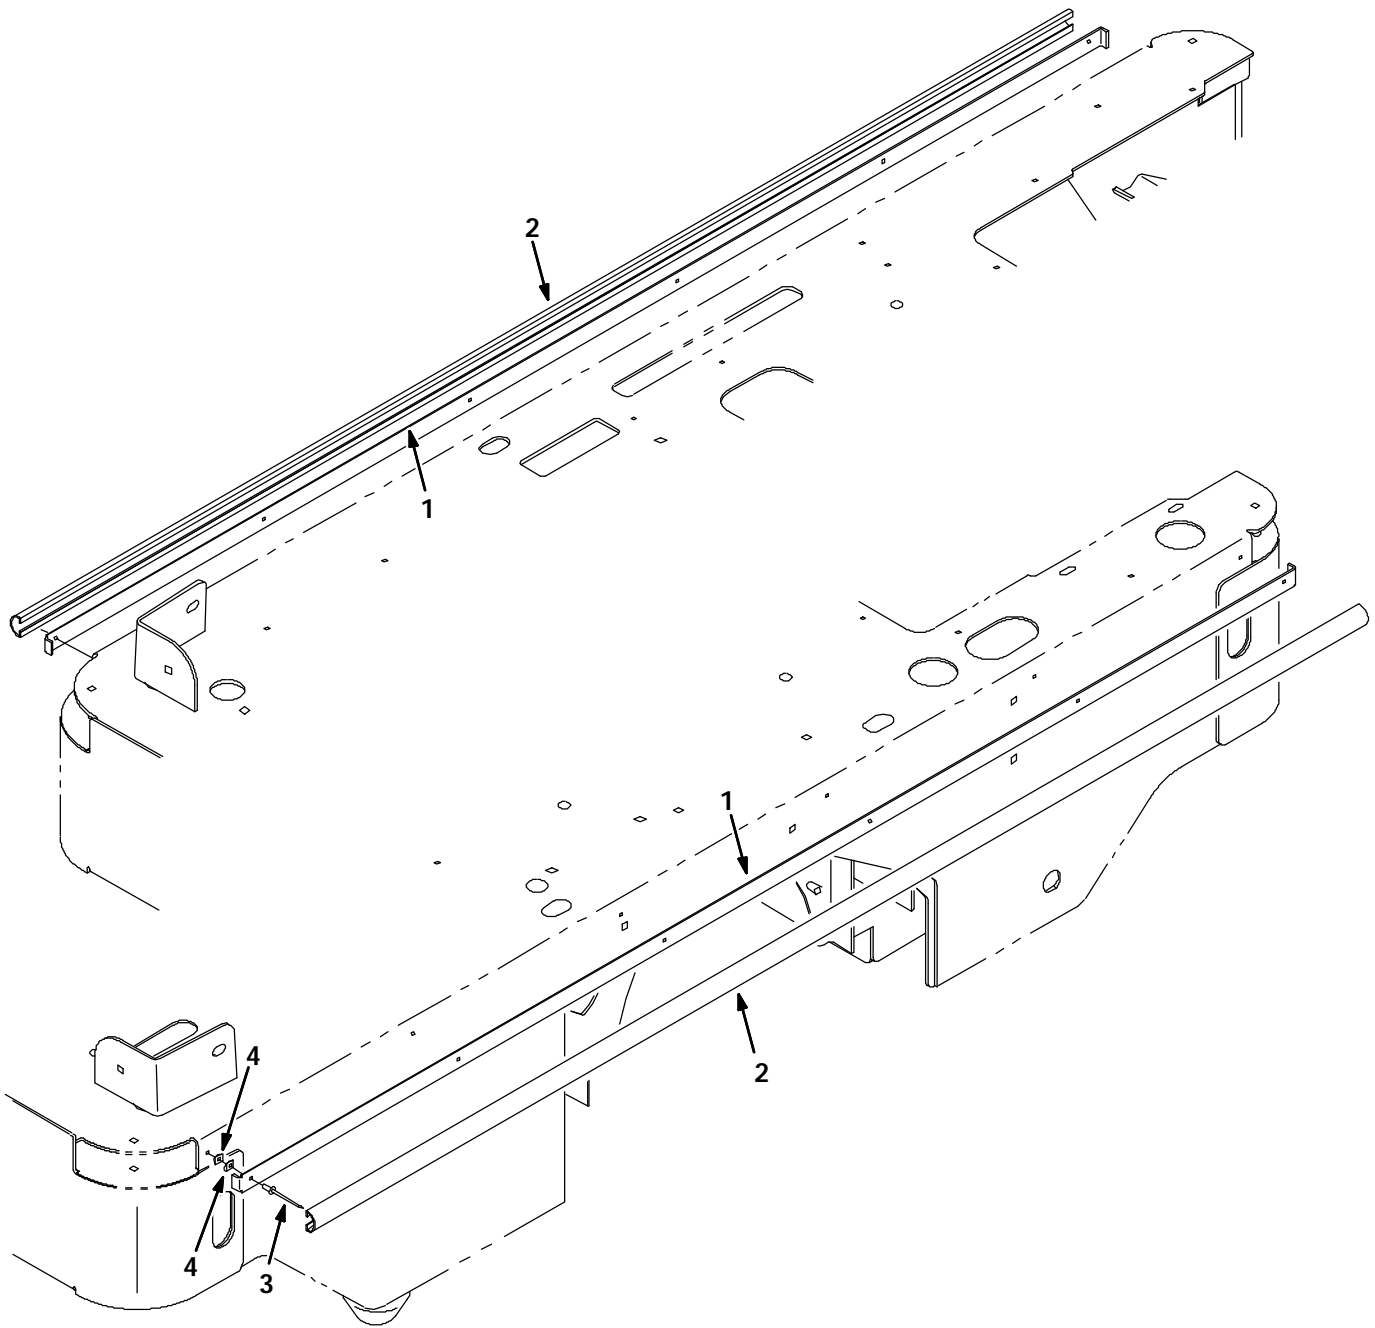

FIG. 1 -
(Refer to FIG. 1, 2 and 3)
1. Line up mounting strips (1) along each side of machine with notched ends of strips in front of the machine. (Refer to FIG. 1 and 2)
3. Using mounting strips (1) as templates, mark and drill six .125in. mounting holes in each side of machine. (Refer to FIG. 1 and 2)
(Refer to FIG. 1, 3 and 4)
6. Slide bumper strips (2) over each mounting strip (1). (Refer to FIG. 1 and 4)